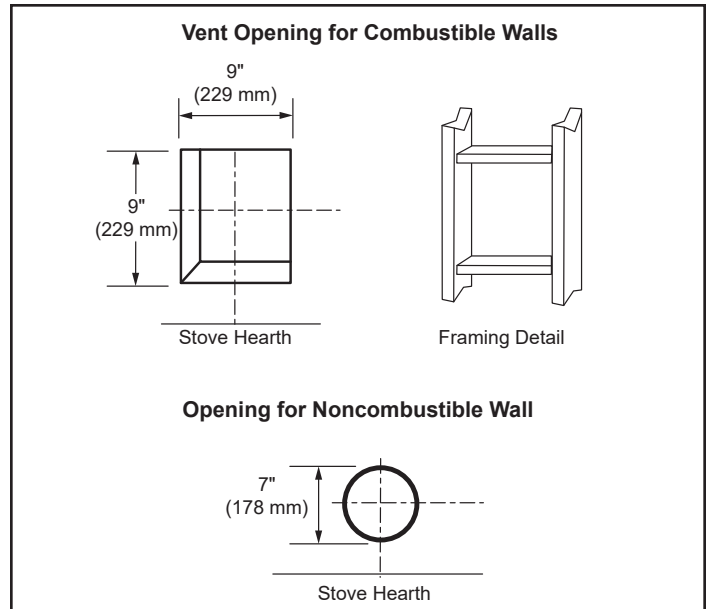

Figure 3.11 - Locate Vent Opening on Wall
1. Locate vent opening on the wall. It may be necessary to first position the stove and measure to obtain hole location. Depending on whether the wall is combustible or noncombustible, cut opening to size, Figure 3.11 (For combustible walls first frame in opening.)